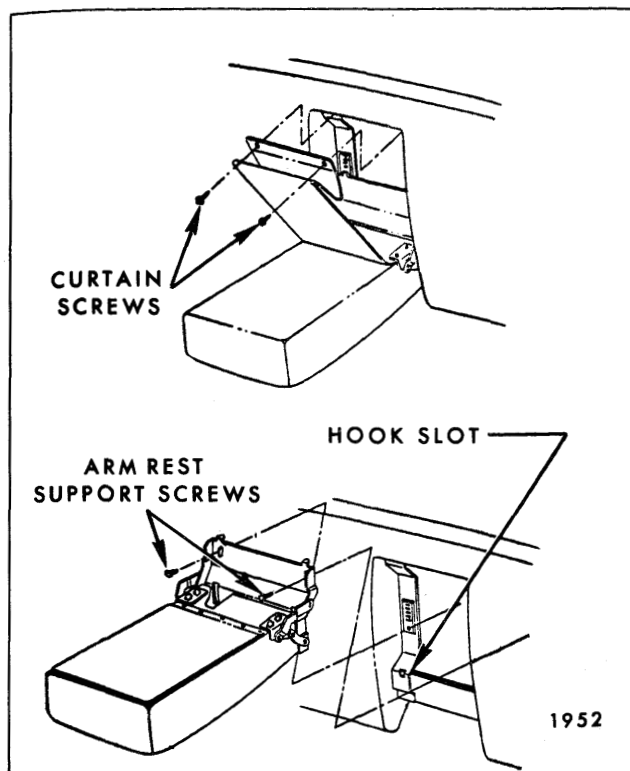

Fig. 10-25—Front Seat Center Arm Rest (Full Width Seat Back)
2. At top of arm rest curtain, remove two screws securing curtain to seat back frame (Fig. 10-25) and pull curtain forward to expose screws securing arm rest to support linkage (Fig. 10-25).
3. Remove arm rest-to-support linkage screws (Fig. 10-25) and remove arm rest and curtain from seat.
2. At top of arm rest curtain, remove two screws securing curtain to seat back frame (Fig. 10-25).
3. Remove two screws securing arm rest to supports on seat back (Fig. 10-25); then, carefully lift arm rest and linkage upward to disengage hooks of arm rest from slots in supports and remove assembly from seat.